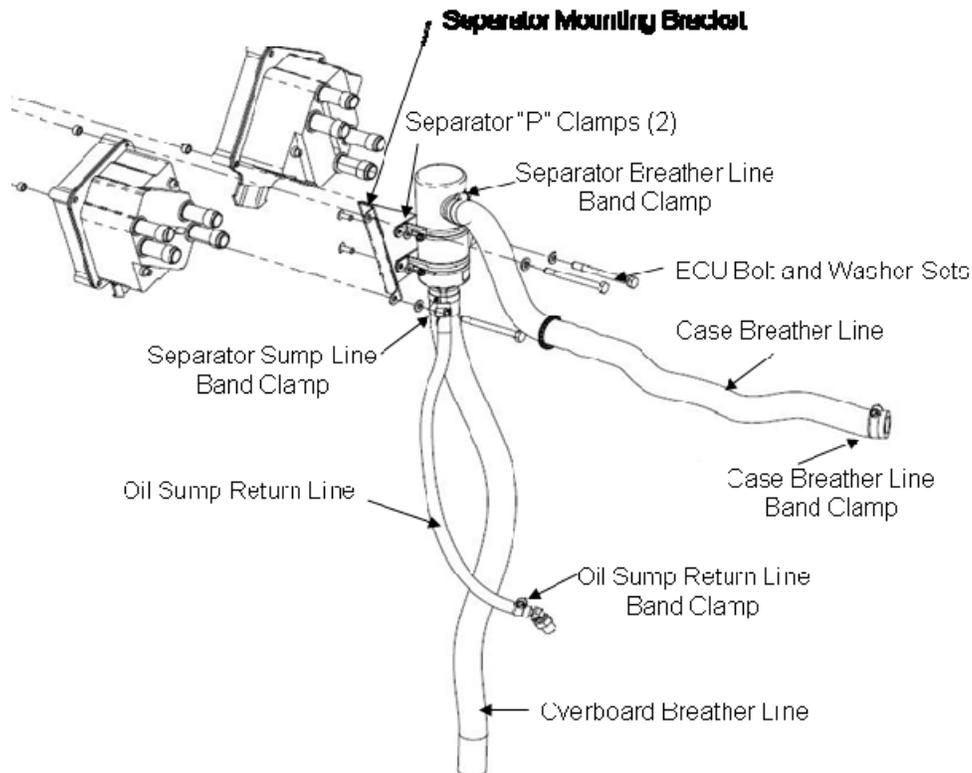

Figure 79-4 Air/Oil Separator Removal
5. Remove the clamps and hoses from the separator as shown in Figure 79-4